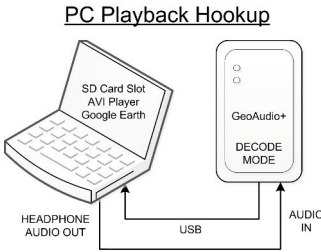

Figure 5.0 – PC Playback Hookup
- Option #1 (see Figure 5.0) - use the supplied 6' 3.5 mm audio cable and 6' USB A-Male to Mini-B cable to connect GeoAudio+ to the user's PC.